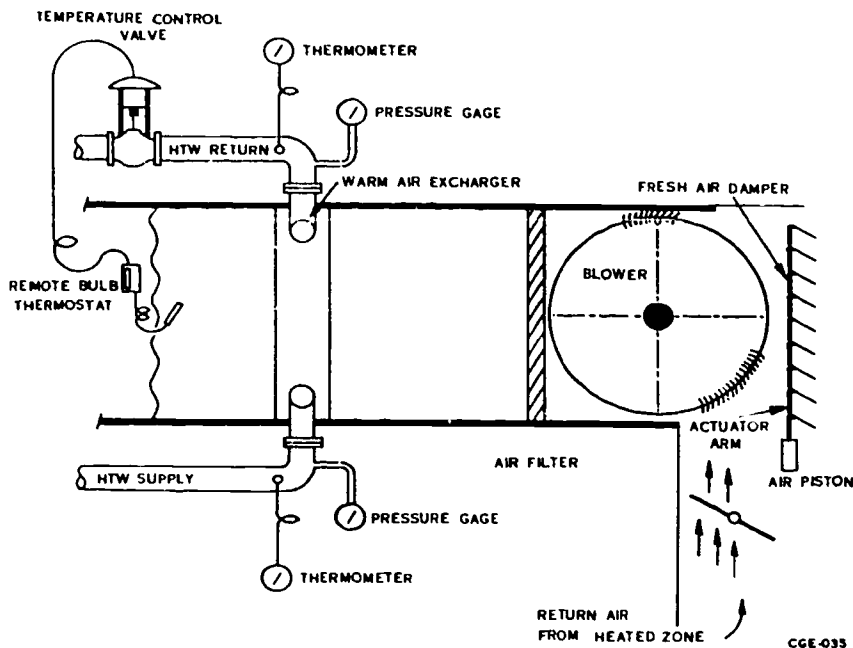

Figure 64. Air Heating Coil
Piping expands when the temperature increases; consequently, the ASA establishes the units of expansion for steel or wrought iron pipe, which are given in figure 63. From figure 64, we see that a 100-foot steel or wrought iron pipe expands 3 inches when the temperature changes from 0°F to 400°F.
Air heating coils are often referred to as warm air exchangers and are installed in a duct or plenum chamber along with a fan or blower. Air filters are normally installed between the blower and the return air from the building being heated or use a percentage (up to 100 percent) of fresh (outside) air. When fresh air is used, precautions must be taken to prevent freezing of the coil during winter operations. This can be accomplished in one of the following manners: (1) installation of a freeze-stat which closes the outside air damper or shuts off the fan; or (2) setting the HTW control valve to a minimum closed position. In most systems, the blower operates continuously and the HTW circulating through the coils is regulated by a temperature control valve or a motorized valve. The sensing bulb of the temperature control valve is installed in the heating duct on the downstream side of the heating coil. The motorized valve is actuated by a remote bulb thermostat. The sensing bulb of the thermostat is installed in the same location as the temperature control valve sensing bulb. The heating coils may be constructed of red brass, provided the HTW is maintained below 400°F. For temperatures of 400°F and above, cupronickel or steel should be used. Figure 64 illustrates a typical HTW air heating coil. The HTW is circulated around the coils. The control valve is mounted on the HTW return side of the coil to permit the valve to control a relatively cooler liquid than the HTW supply. (Most HTW systems are designed for a 150°F temperature drop between the HTW supply and return.) Temperature and pressure gauges are installed on both the supply and return sides of the HTW coil to determine the load drawn by the heat consumer. Air heating coils are normally installed in specially designed mechanical or utility rooms.